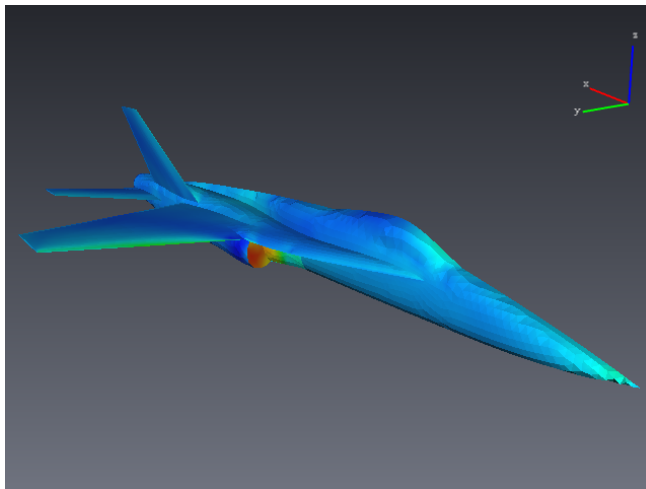

Figure 22.75: Pressure field on the boundaries of a YF-17 Cobra aircraft.
- Enlarge the view and rotate it in order to get a better image of the aircraft (see Figure 22.75).